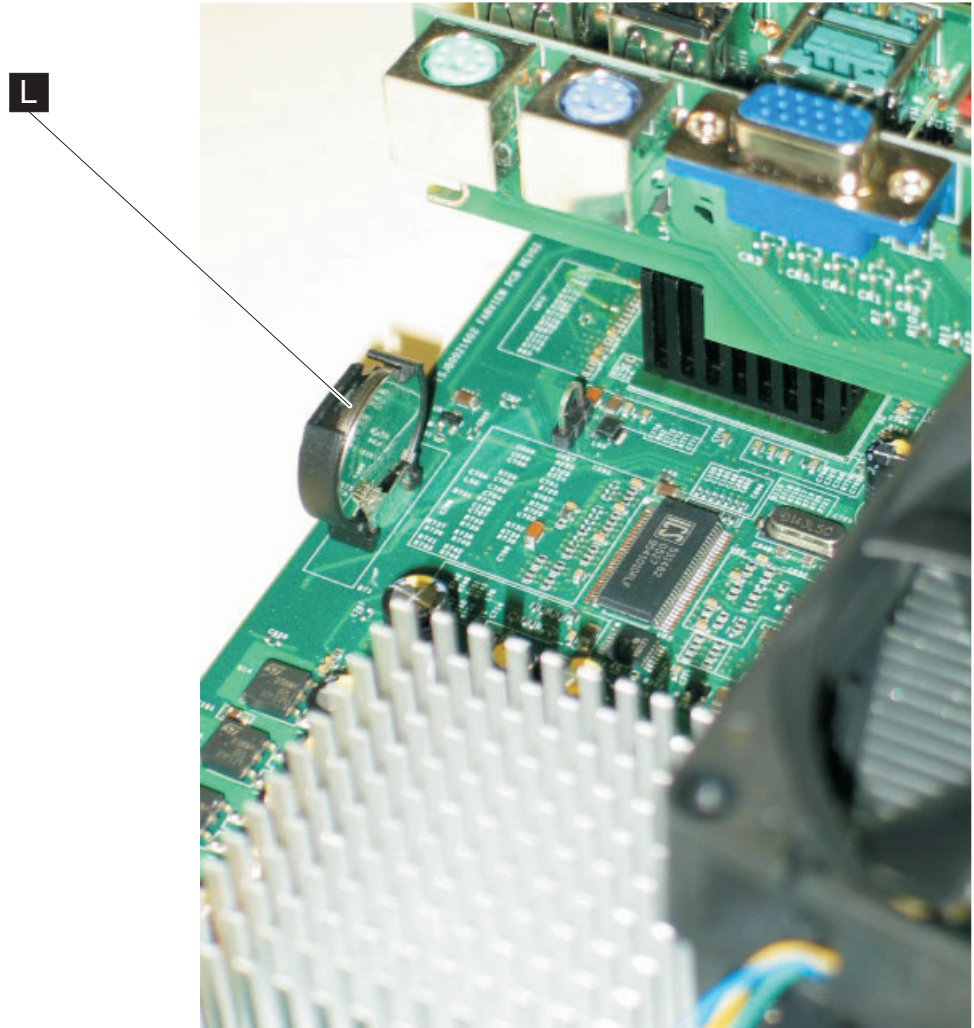

Figure 28. System-board battery
5. Remove the old battery from the slot **L** as shown in Figure 28.